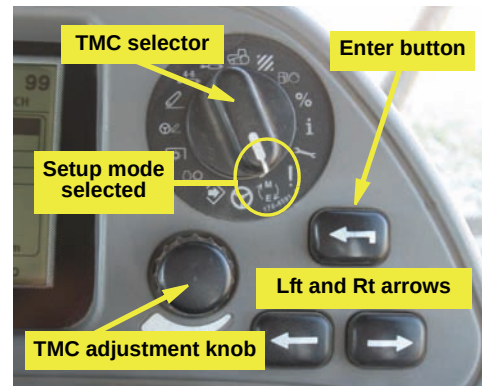
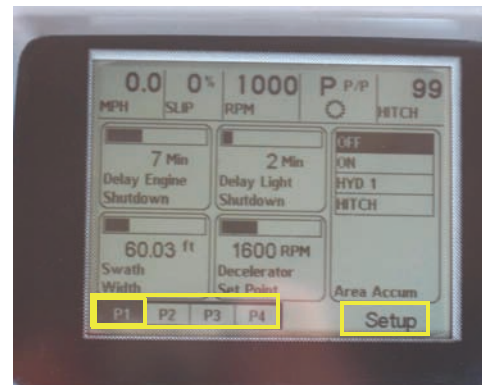

Figure 1b: TMC controls. Setup mode (M/E) selected
Figure 1c: Setup screen - page 1 (P1)
b. Using the TMC selector, select the setup mode (M/E) (Figure 1b). The Setup screen appears (Figure 1c).
c. In page 1 (P1) of the Setup screen, use the TMC adjustment knob to select P3 (Figures 1c and 1d).